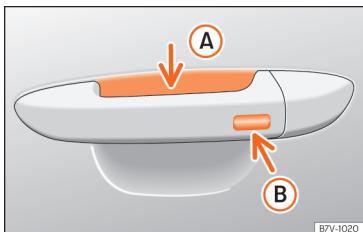

Fig. 52 Door handle: sensor surfaces.
»» Fig. 52
- Touch the sensor surface »» Fig. 52 **B** on the outside of the door handle. All turn signals flash once.
- Within 5 seconds, touch the sensor on the outside of the door handle once »» Fig. 52 **B**. Do not grip the handle while doing so. This temporarily deactivates the Keyless Access system.
To close all the electric windows and the sunroof using the **comfort function**, keep a finger for a few seconds on the locking sensor surface >>> **Fig. 52** (B) of the door handle until the windows and roof have closed.